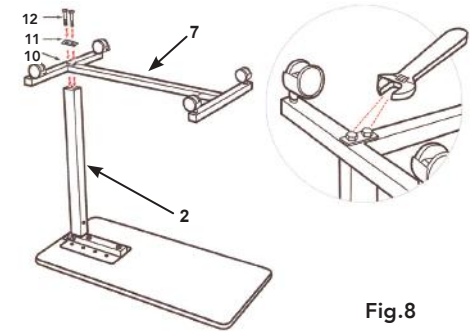

Fig. 8
7. Install two Bolt Sleeves (10) into the upside down H-Base (7) and then position the two 3/8" #18 UNF Bolts (12) through the Bolt Plate (11) and into the Bolt Sleeves (10). Position the H-Base (7) over the Column Assembly (2) and thread bolts into the bottom of and tighten using an adjustable wrench. See Fig. 8